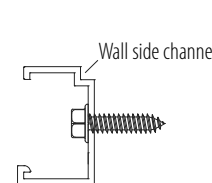
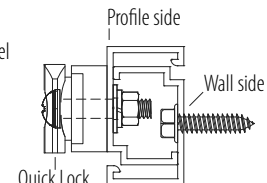

Figure 2a
Figure 2b
- Ensure that the top of the wall side installation rail (Figure 2a) has a channel in it to allow for the hanging and suspension of the profile side rail (Figure 2b)